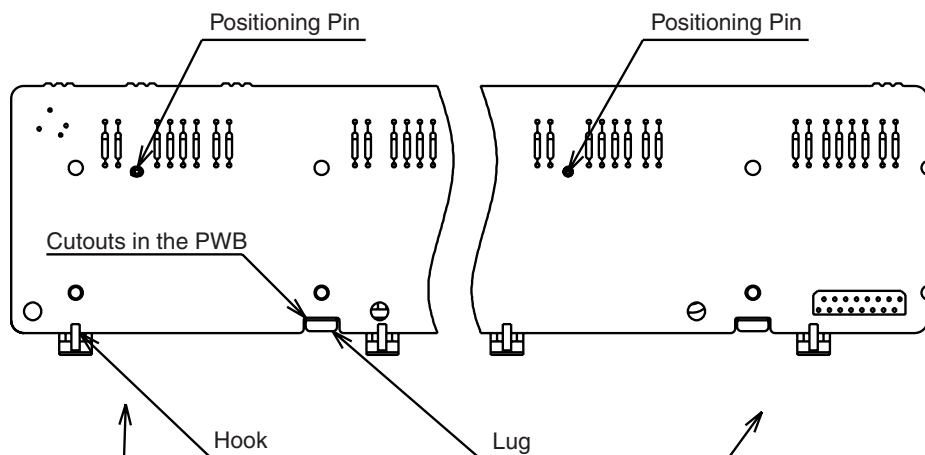

Fig.7
- Aligning the cutouts in the PWB with the lugs on the chassis, put one side of the PCB into the chassis hooks. Place the PWB on the chassis so that the chassis positioning pins fit into the positioning holes. (See Fig.7.)